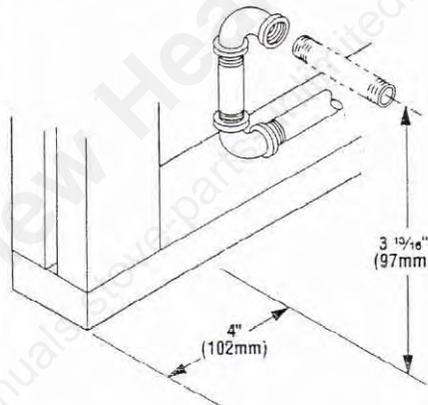

Figure 5
**Step 2.** Route a 1/2" (13 mm) NPT black iron gas line 3 19/16" (97 mm) above the floor surface (if fireplace will be resting on the floor) and 4" (102 mm) behind the face of the rough framing (Figure 5).